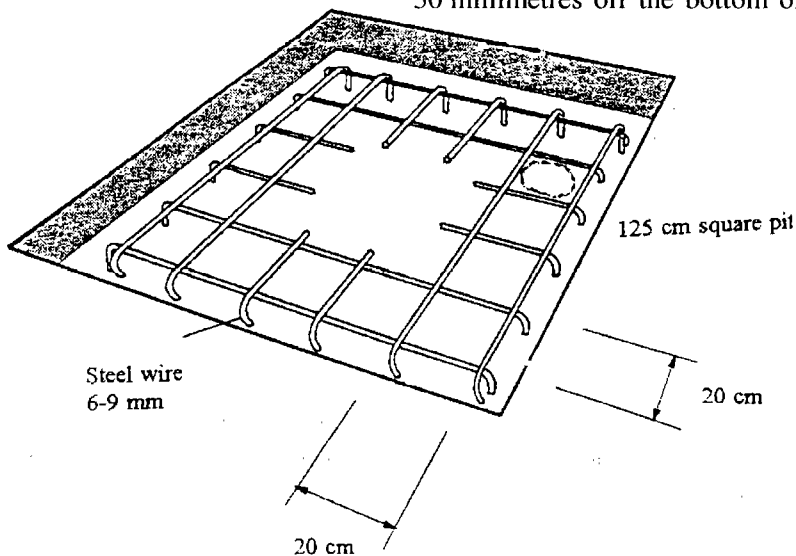

Figure 13. Grid in the pit
- Put the grid in the pit. Bend the ends of the wires, or put a small stone at each corner, so that the grid stands about 20-30 millimetres off the bottom of the pit (see Figure 13).